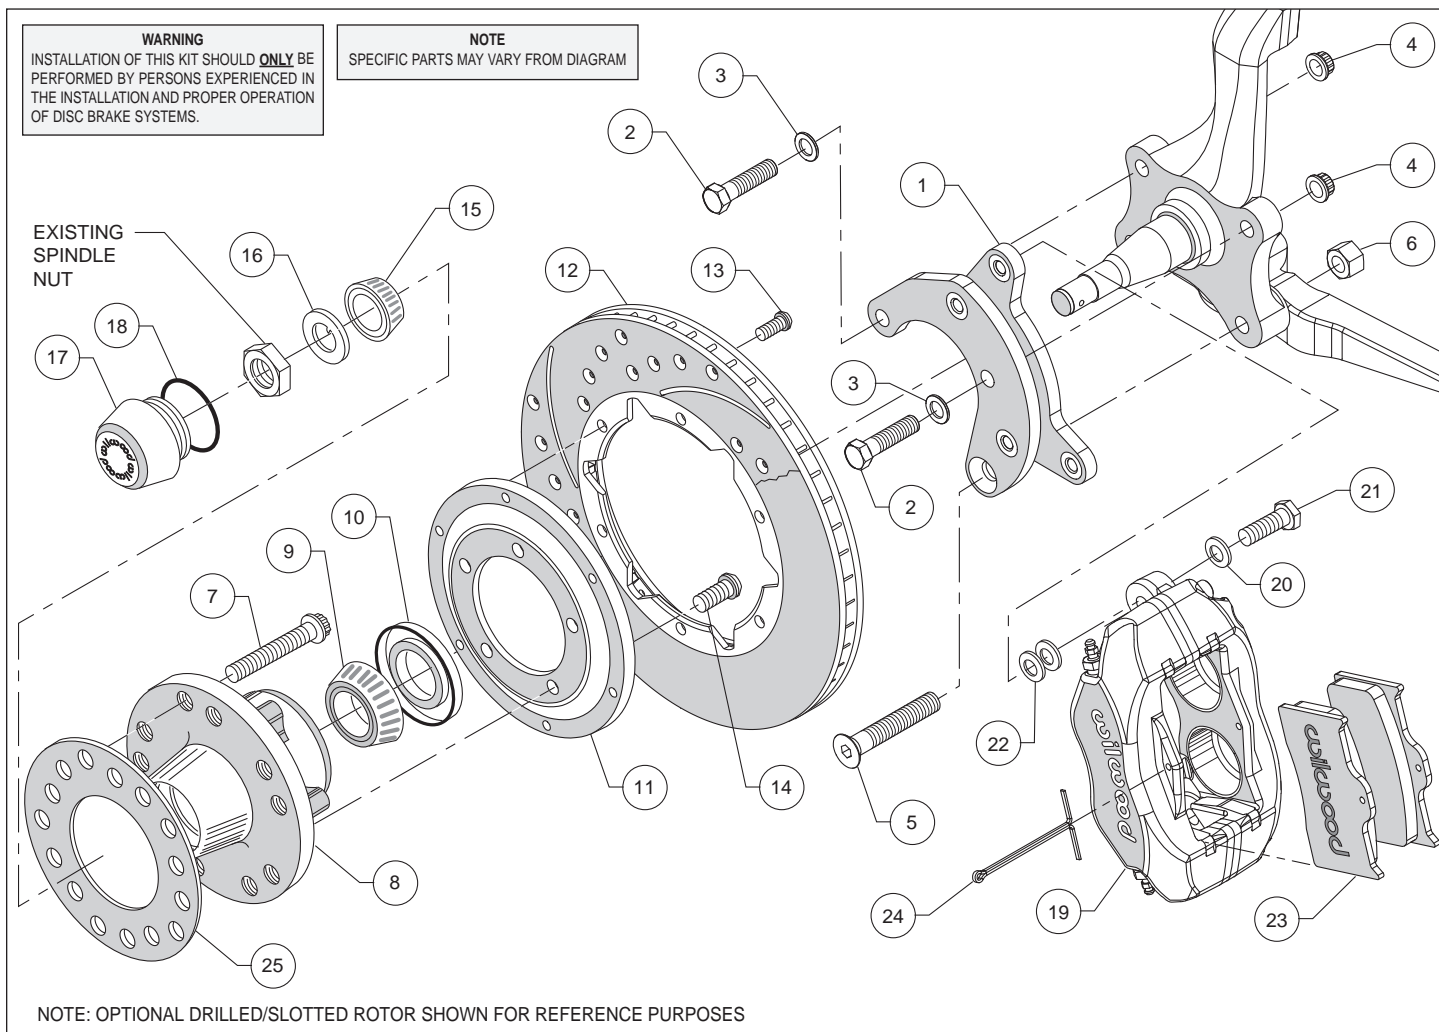
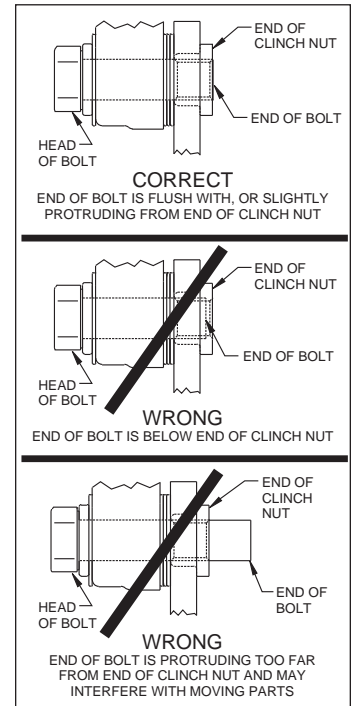

Figure 1. Typical Installation Configuration
Figure 4. Clinch Nut Engagement Diagram
(numbers in parenthesis refer to the parts list on the preceding page and Figure 1): **CAUTION:** All mounting bolts must fully engage clinch nuts. Be sure to check that all bolts are either flush or protruding through flanged side of clinch nut after shimming, Figure 4.
- Align bracket with the corresponding holes on the face of the spindle, attach using bolts (2/5), washers (3), and secure using nuts (4/6) as shown in Figure 1 and Photo 1. Temporarily tighten the mounting bolts. Ensure that the flanged heads of the clinch nuts in the bracket are facing outboard, Photo 1. **NOTE:** The bracket must fit squarely against the mounting points on the spindle. Inspect for interference from casting irregularities, machining ridges, burrs, etc. Torque lock nuts (4) to 47 ft-lbs. Remove bolts (5), apply red *Loctite*® 271 to threads and torque nuts (6) to 77 ft-lbs.
- Pack the large inner bearing cone (9) with high temperature disc brake bearing grease (available from your local auto parts store) and install into the backside of the hub (8), Photo 3.
- Install the grease seal (10) by pressing into the backside of the hub (8), flush with the end of the hub, Photo 3.
- Orient the rotor (12) and the rotor adapter (11) as shown in Figure 1 and Photo 4. Attach the rotor to the adapter using bolts (13). Using an alternating sequence, apply red *Loctite*® 271 to the threads, and torque to 25 ft-lb.
- Mount the adapter/rotor assembly (11/12) to the hub (8) using bolts (14), as shown in Figure 1 and Photo 5. Using an alternating sequence, apply red *Loctite*® 271 to the threads, and torque to 55 ft-lb.
- Pack the small outer bearing cone (15) with high temperature disc brake bearing grease and install into hub (8). Slide the hub/rotor assembly onto the spindle. Secure using spindle washer (16) and OEM spindle nut, Photo 6. Adjust bearings per OEM specifications. Install saved OEM nut lock (if any) and a new cotter pin (not supplied).
- Screw dust cap (17) into hub (8), Photo 7. Friction created by the o-ring (18) on the dust cap keeps it from unscrewing. **NOTE:** The O.D. of the existing OEM spindle washer may be larger than the I.D. of the dust cap not allowing it to seat against the hub face. Therefore, use the spindle washer (16) supplied with the kit instead of the OEM washer.
- NOTE:** Please reference the caution statement at the beginning of the assembly instructions. Mount the caliper (19) onto the caliper mounting bracket (1) using bolts (21) and washers (20), as shown in Figure 1. Initially place two .035" thick shims (22) on each bolt between the caliper and the bracket, Photo 8. Temporarily tighten the mounting bolts and view the rotor (12) through the top opening of the caliper. The rotor should be centered in the caliper, Photo 9. If not, adjust by adding or subtracting shims between the bracket and the caliper. Always use the same amount of shims on each of the two mounting bolts. **NOTE:** The end of each bolt must be flush with or slightly protruding from the head of the clinch nut, as shown in Figure 4. If necessary place spare shims between washer (20) and caliper mounting ear to achieve the proper clinch nut engagement. Once the caliper alignment and clinch nut engagement are correct, remove the bolts one at a time, apply red *Loctite*® 271 to bolt threads, and torque to 40 ft-lb.